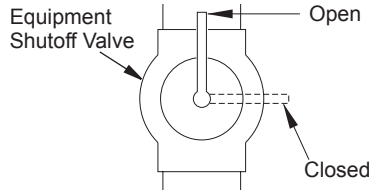

Figure 21 - Equipment Shutoff Valve
1. Close equipment shutoff valve (see Figure 21).
1. Open equipment shutoff valve (see Figure 21, page 16).
2. Close equipment shutoff valve (see Figure 21, page 16).